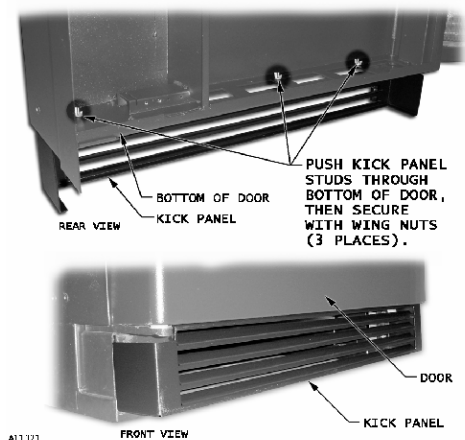

FIGURE 2. INSTALL KICK PANEL
4. Position Kick Panel under the main door with louvers facing front. See Figure 2.
6. Lock the Kick Panel into position by re-installing the three (3) wing nuts as shown on Figure 2.